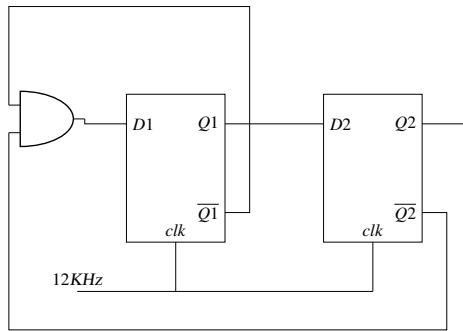

Fig. 5.16
16. In the circuit shown in Fig. 5.16, the clock frequency is 12 KHz. The frequency of the signal at  $Q2$  is \_\_\_\_\_ KHz. (GATE EC 2019)